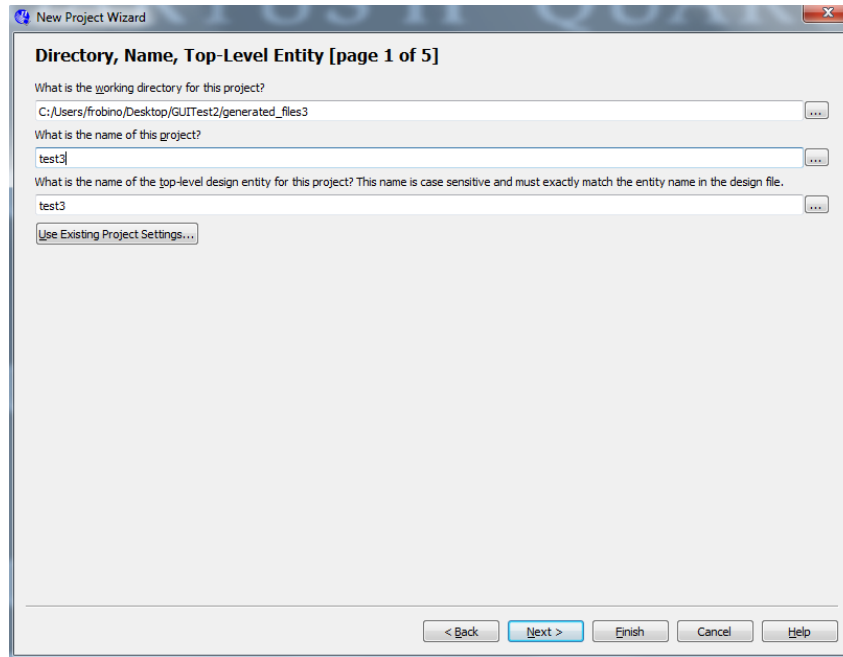

Figure 2.17.: Specify directory and project name in Quartus II
3. in the Directory, Name Top-Level Entity form, shown in Figure 2.17, specify as working directory your **Target Directory**, the one containing the output files of the NSG. As project name and top-level design entity, specify the **System Name** you specified in the NSG project (see Section 2.2.1), which is the same name of the .sopc or .qsys files in the **Target Directory**. Then press Next;